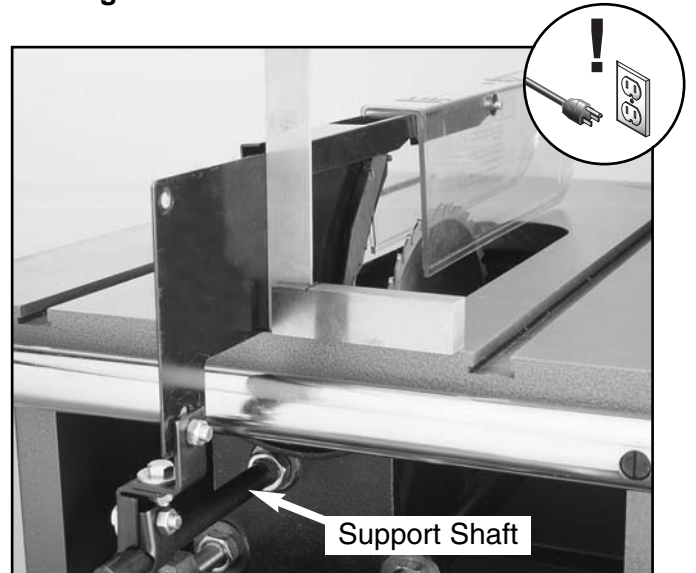

Figure 38. Adjusting blade guard.
7. Using a machinist's or a combination square, align the face of the splitter perpendicular to the surface of the saw table as shown in **Figure 38**.